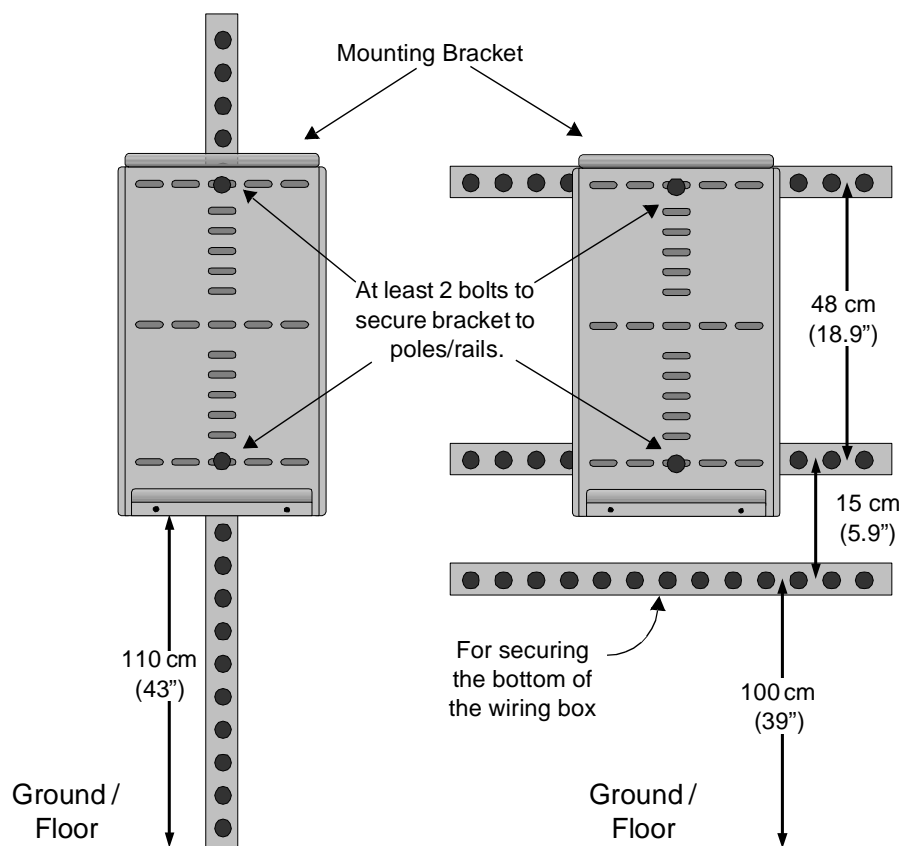

Figure 2-9 Examples of Mounting on a Pole or Rails
1. Ensure that poles or rails are securely assembled in place. If using horizontal rails, three rails are required: two for the mounting bracket and a third for securing the bottom edge of the inverter wiring box (see Figure 2-9).
2. Connect the mounting bracket vertically to the poles or rails (Figure 2-9):